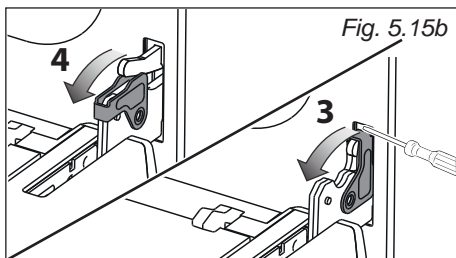

Fig. 5.15c
- Hold the oven door by two hands and close it until the hinge levers hook to the oven door and the door no longer closes easily (fig. 5.15c).